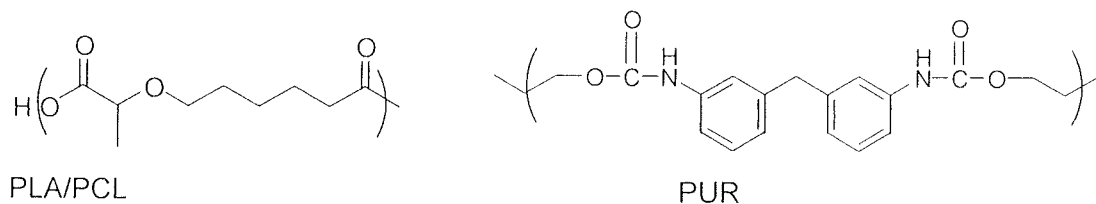

Figure 1
- [c] Comparison is made between porous PCL/PLA blend and PUR as scaffold fabricated during *in vitro* testing in alkaline buffer solution. The chemical structures for PLA/PCL and PUR are shown in Figure 1. Explain: